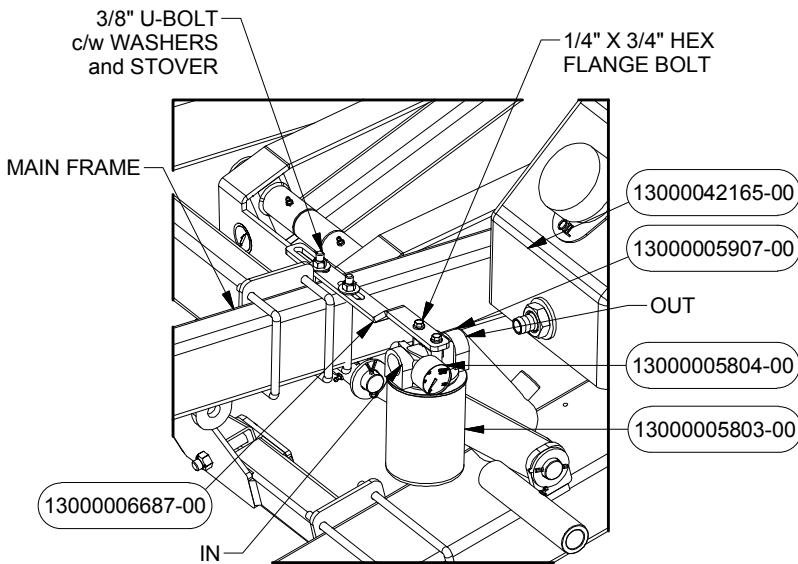

FIGURE 41
- Assemble the Oil Filter parts PN# 5803, PN# 5804 and PN# 5907 then attach it to the Oil Tank PN# 42165 and to the Filter Bracket PN# 6687 using Hex Flange Bolts. Attach the whole assembly to the Main Frame using U-Bolt PN# 6688 c/w Flat Washer and Stover Nut (see Figure 41).